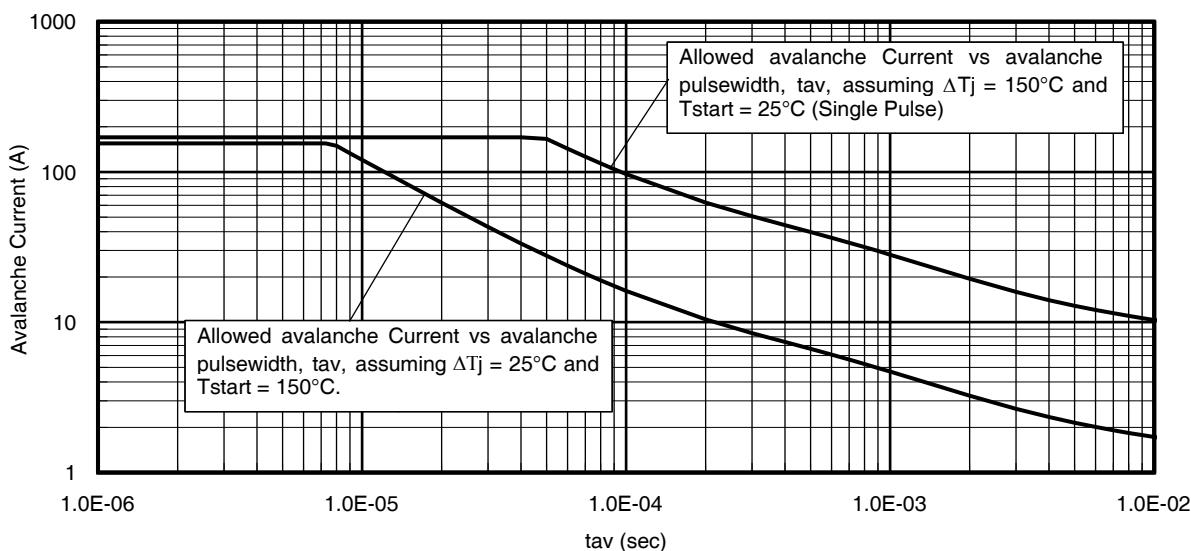

Fig 15. Avalanche Current vs. Pulse Width
#### Notes on Repetitive Avalanche Curves , Figures 15, 16: (For further info, see AN-1005 at [www.irf.com](http://www.irf.com))
7.  $\Delta T$  = Allowable rise in junction temperature, not to exceed  $T_{jmax}$  (assumed as 25°C in Figure 15, 16).